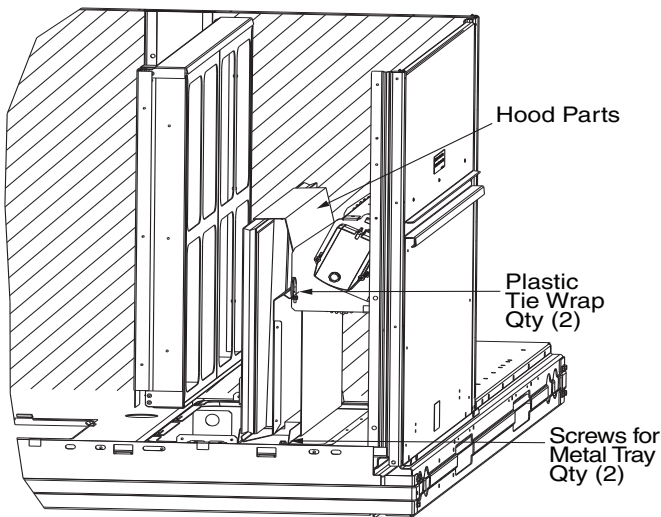

Fig. 10 — Economizer Hood Parts Location
2. Locate the (2) screws holding the metal tray to the basepan and remove. Locate and cut the (2) plastic tie-wraps securing the assembly to the damper. (See Fig. 10.) Be careful to not damage any wiring or cut tie-wraps securing any wiring.